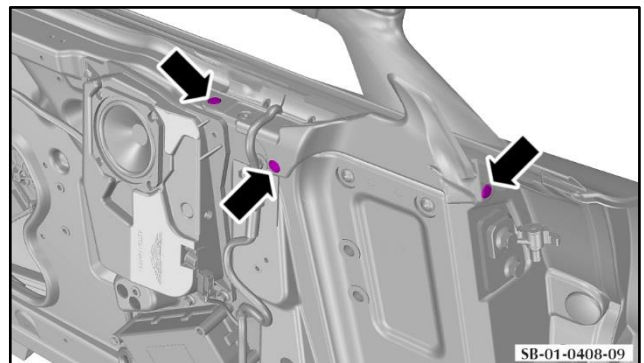

Figure 9
8. Release the three clips that attach the door inner moulding to the door (refer to Figure 9).